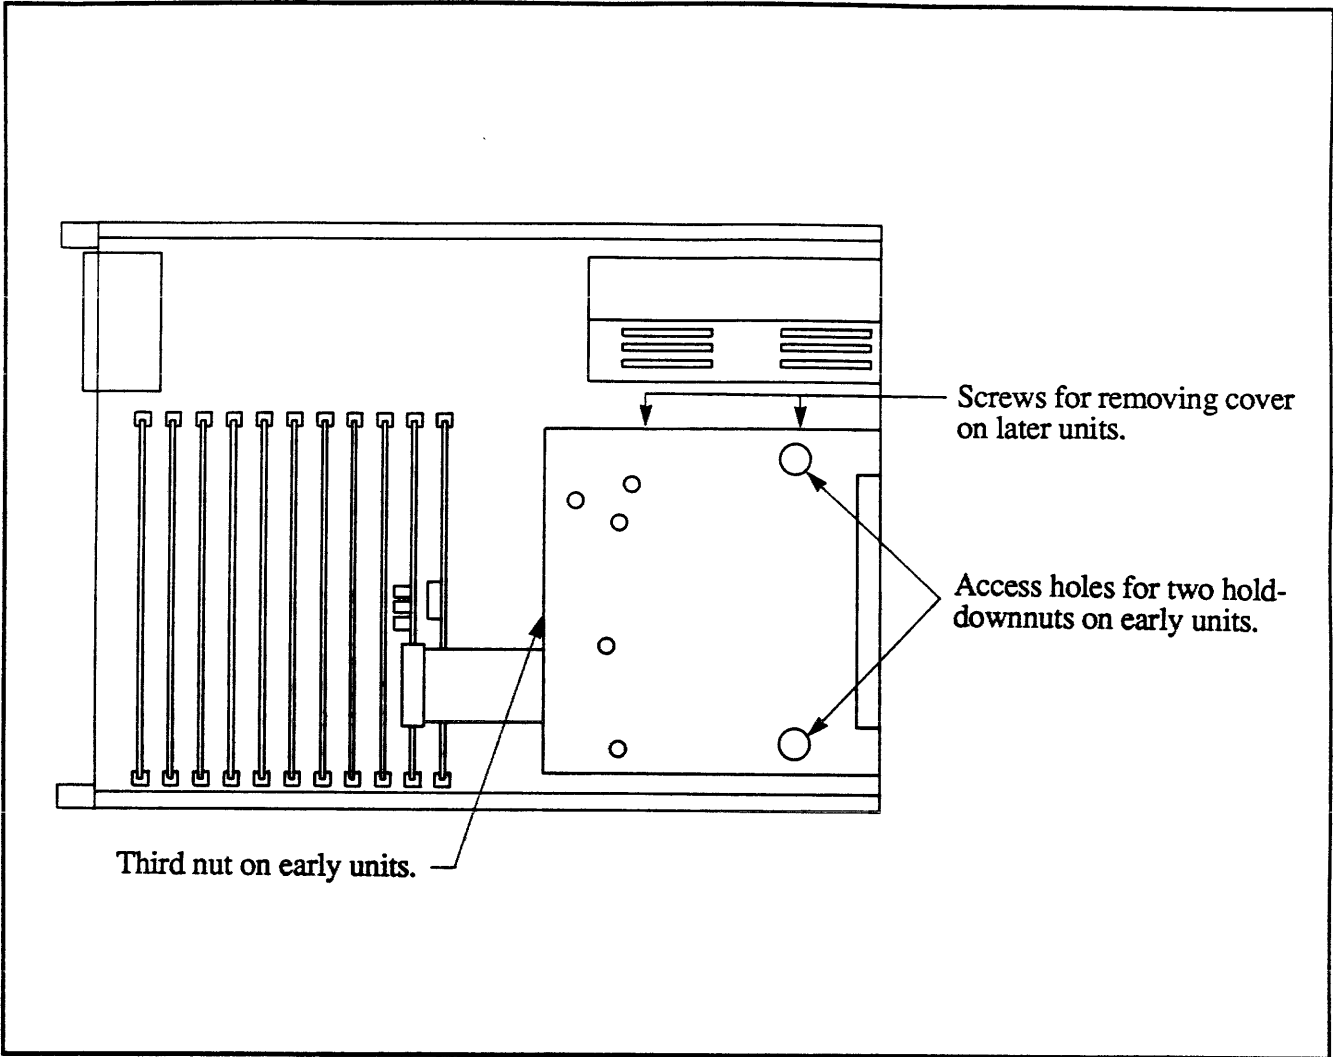

Figure 5-1: CRT Module Cover Removal
- d. Remove the display module securing screws and cover to gain access to the adjustments. Refer to Figure 5-1.
- e. Early production units require that the display module be removed from the chassis. This allows access to the screws holding the module cover. To remove the display module, use a long 8" socket extension to reach the three nuts as shown in Figure 5-1. Carefully remove the display module from the chassis sufficiently to loosen the module cover screws and cover. If necessary, temporarily disconnect the wires to obtain slack required for removal.